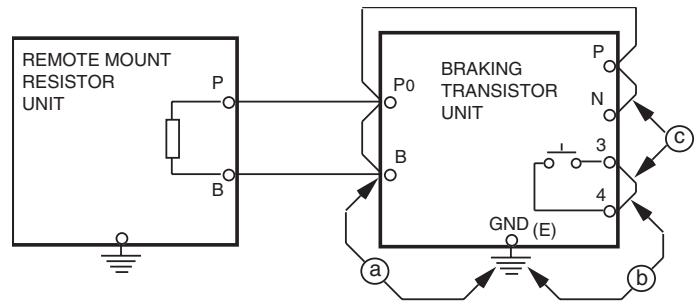

Figure A6-6. Megger Testing Set-up
- b. Connect common leads (jumpers) across Braking Transistor Unit terminals N, P, Po, and B, and across 3 & 4, as shown in Figure A6-6.
- c. Measure the insulation resistance at points a, b, and c in Figure A6-6 with the megger.